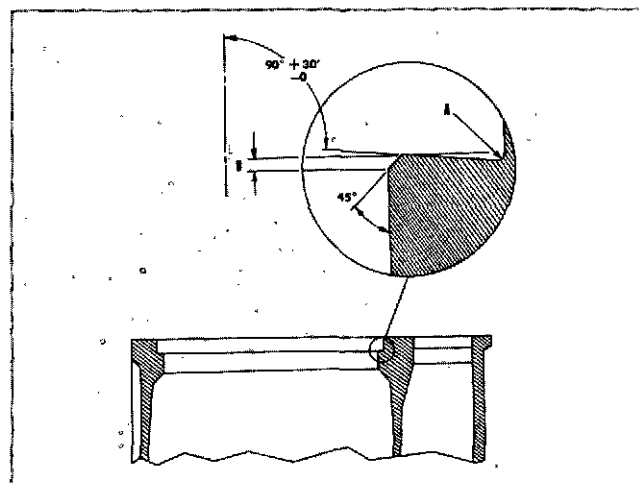

Fig. 1-1-27, N20147. Cylinder liner counterbore cross section
- a. A correctly ground tool bit will leave counterbore surface completely flat or cupped to a 30-minute angle (the cup is preferred) with a 0.005 to 0.015 inch [0.1270 to 0.3810 mm] radius as shown in (A, Fig. 1-1-27).
9. Chamfer edge of counterbore ledge 45 degrees after counterboring. See (B, Fig. 1-1-27). Do not chamfer deeper than 0.013 to 0.024 inch [0.3302 to 0.6096 mm] to avoid reducing liner seating area.